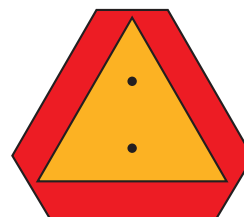

Figure 3-7: SMV Sign
- Transport during daylight hours whenever possible. Always use flashing warning lights, except where such use is prohibited by law. Make sure lights, reflectors and SMV emblem are clearly visible and operating. Remove any obstructions such as dirt, mud, stalks or residue that restricts view before transporting. **See Figure 3-7.**